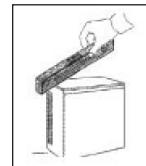

Fig.13.
- 4) Locate the icemaker and the storage bin in the final place, making sure that the two are perfectly level, in order to obtain an even distribution of the water all over the evaporator and a uniform filling of the cube plate (Fig.13). The storage bin is equipped with adjustable feet, which allow for easy levelling and sufficient height for cleaning under the machine.